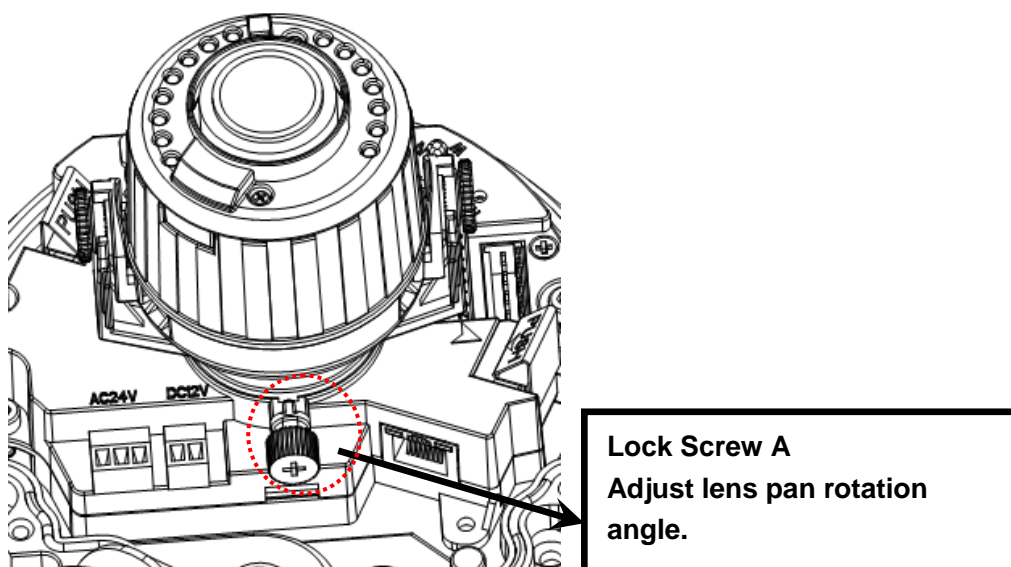
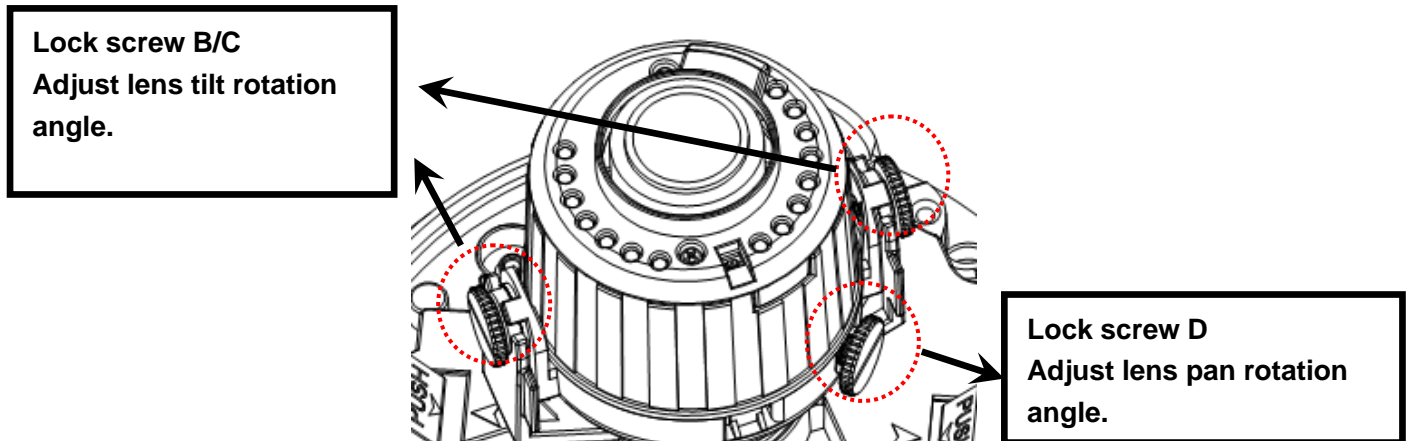

Figure 2-7
Figure 2-8
b) Lens pan rotation angle setup. Please refer to Figure 2-7 to unfasten the lock screw A and adjust the pan monitor angle to the proper position. Then fix the lock screw A. The pan angle ranges from 0°~+350°.
c). Lens tilt rotation angle. Please refer to Figure 2-8 to unfasten the lock screw B and lock screw C and adjust the tilt monitor angle to the proper position. Then fix the lock screw B and lock screw C. The tilt angle ranges from  $-23^{\circ}$ ~ $+73^{\circ}$ .
d). Image pan rotation angle setup. Please refer to Figure 2-8 to turn lock screw D to adjust the video pan angle. Then fix the lock screw B and C. The video pan angle ranges from  $0^{\circ}$ ~ $+350^{\circ}$ .
Please note Figure 2-7 and Figure 2-8 is based on the IR motorized zoom camera. For the IR manual zoom camera and non-IR series product, the lock screw position and the lens angle adjustment are the same.